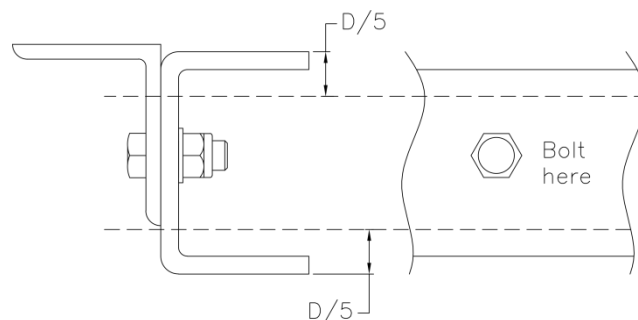

Figure 14: No bolting area
- Ensure the chassis mounting bolts are not within one fifth of the chassis depth of the top and bottom flange or on the chassis rail radii (refer Figure 14).